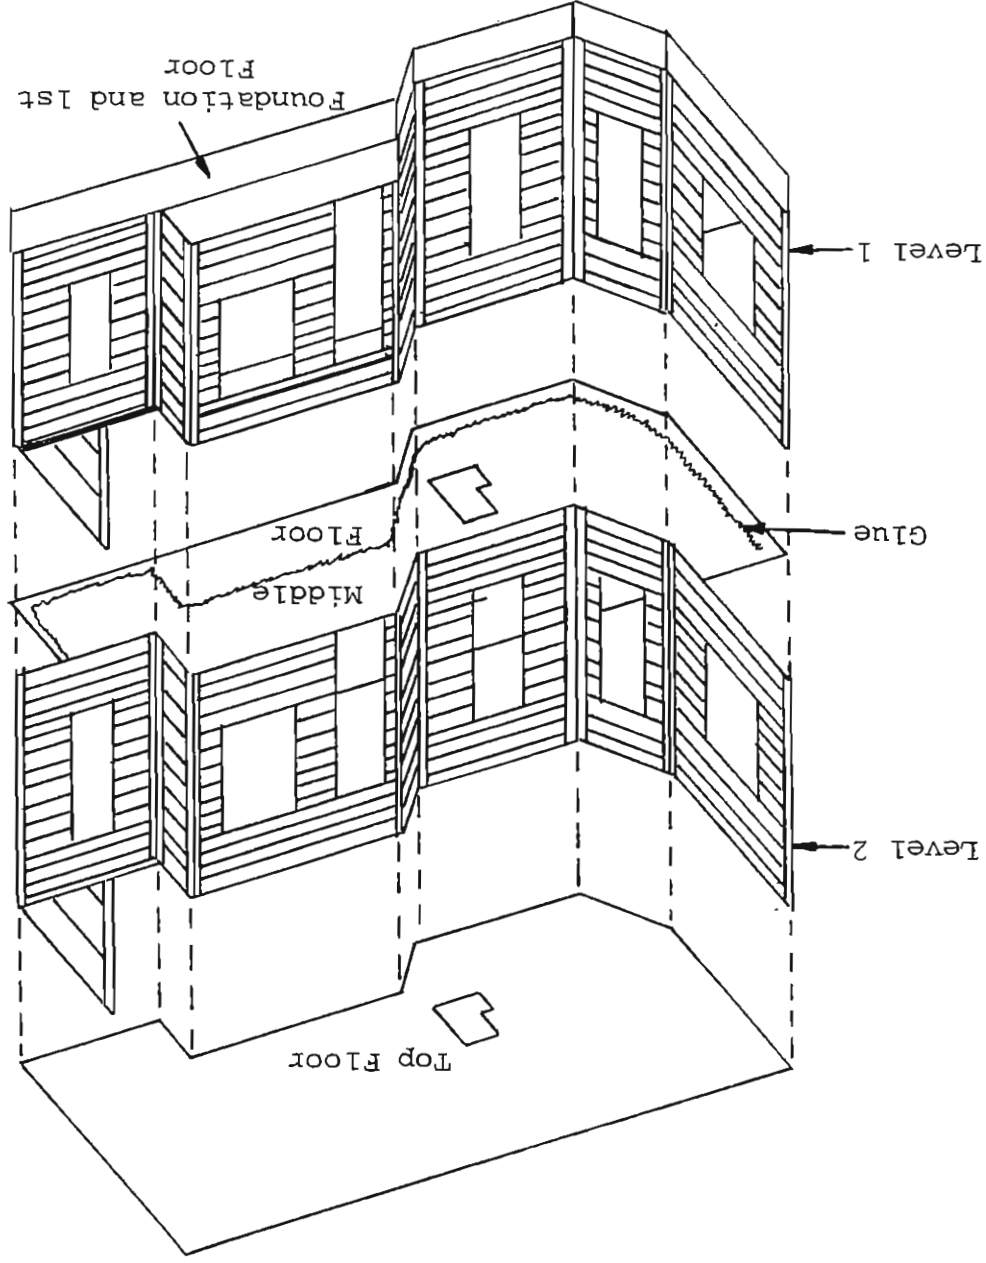

FIGURE 10
Place a plywood top floor (good side up) over the first level wall sections. Refer to Figure 10.
17) Install the level 2 clapboard siding sections repeating the procedure for level 1 outlined in section 15. Refer to figure 10.